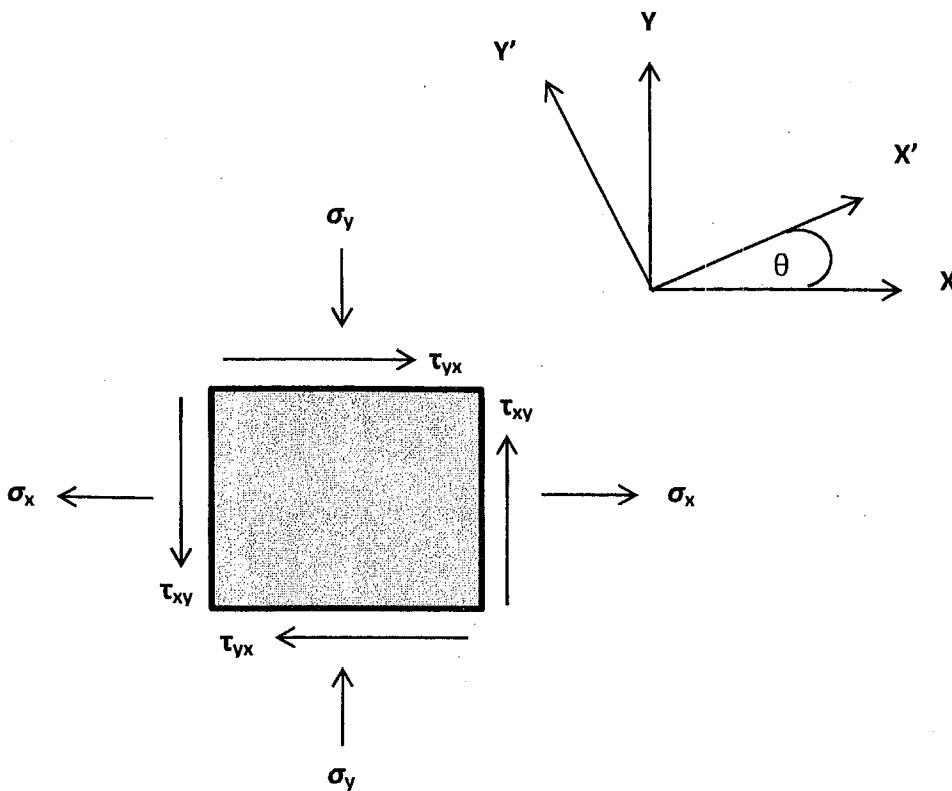

Figure 4: Element in plane stress
4. a. An element on surface of a pressurized cylinder, the material is subjected to stresses  $\sigma_x=84$  MPa,  $\sigma_y= -29$  MPa and  $\tau_{yx}= \tau_{xy}= 32$  MPa as shown on a stress element in Figure 4. Determine,